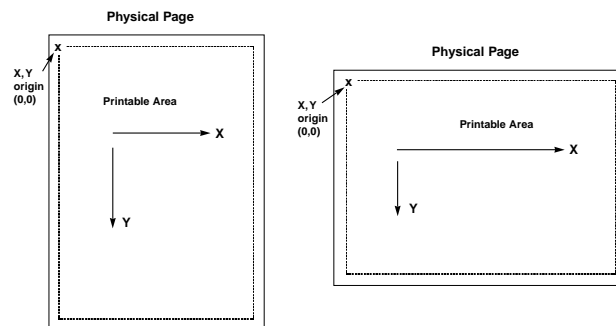

Figure 1
1. All xy values (start, end, center, increment) are measured in n/300 of an inch. The origin of the xy coordinate system is the top left hand corner of the printable area of the page (see Figure 1).
2. To determine the printable area of the paper, we printed a box using 0;0 as the x;y -start coordinates. This was done by typing `-GB1;0;0;300;300;50` on the screen and sending it to the printer. The top left corner of the printed box marks the top left corner of the printable area of the page. For reference, we drew the printable area on the blank sheet of paper. All references to distances are made in respect to the printable page, not the actual physical page. Refer to Figure 1 on page 5-22.